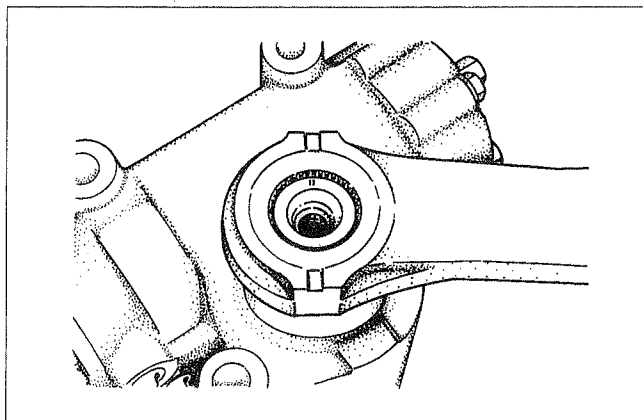

Figure 9
1. Install the Pitman arm on the sector shaft. Align the timing mark on the arm with the timing mark on the sector shaft (Figure 9).